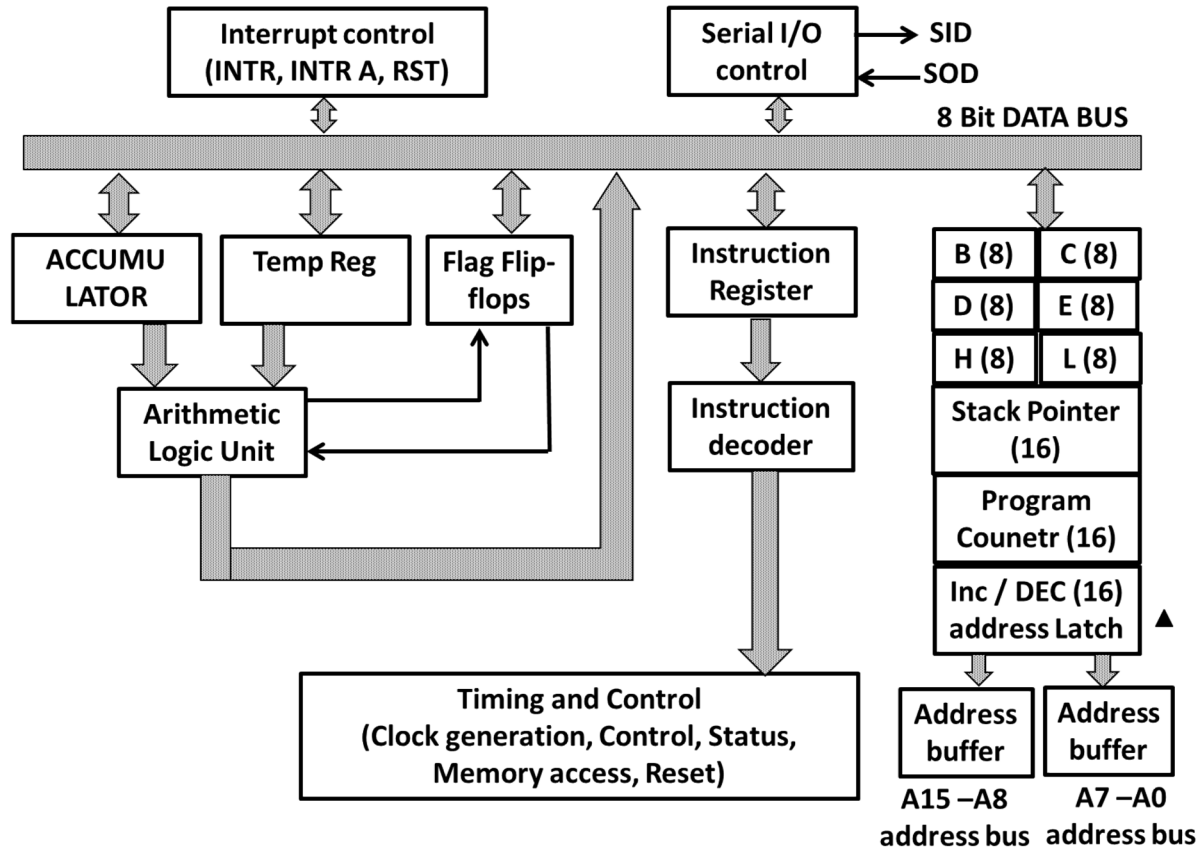

Fig 9.2 8085 Microprocessor architecture
**8085 Architecture** Refer fig 9.2